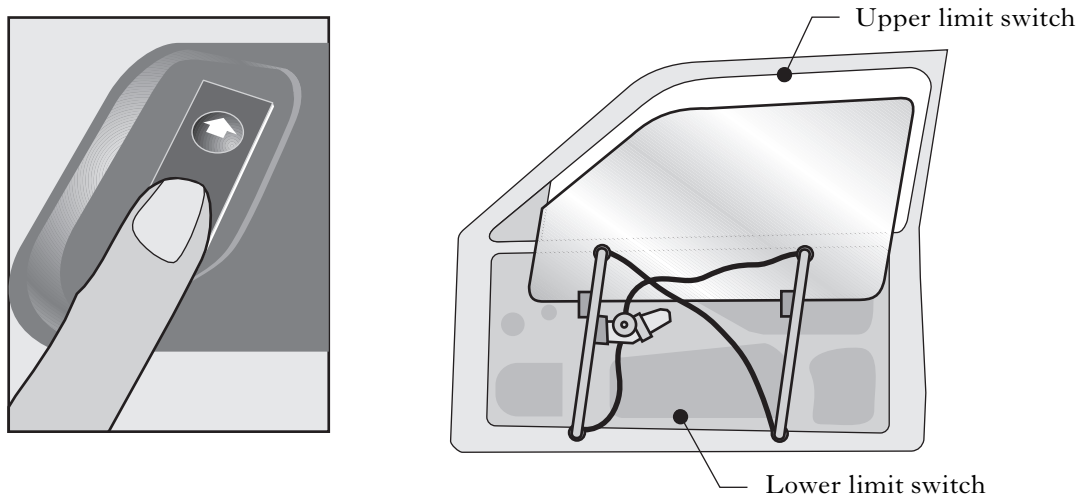

Figure Q8(a)
8. An electric window in a car is controlled by an “up” switch and a “down” switch as shown in Figure Q8(a).